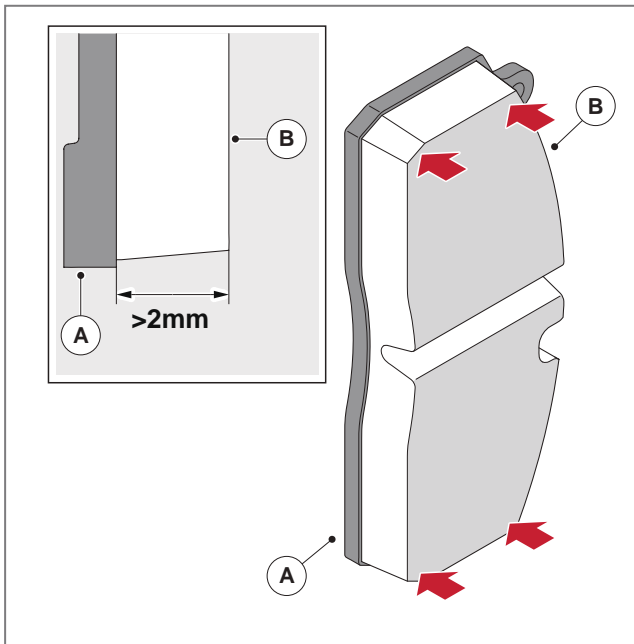

Fig. 16 - Measuring brake pad wear
5. On both brake pads, measure the distance from the back plate (A) to the wear surface (B) of the brake pad in four places, see ► *Fig. 16*. The minimum permitted pad thickness (friction material) is 2 mm.